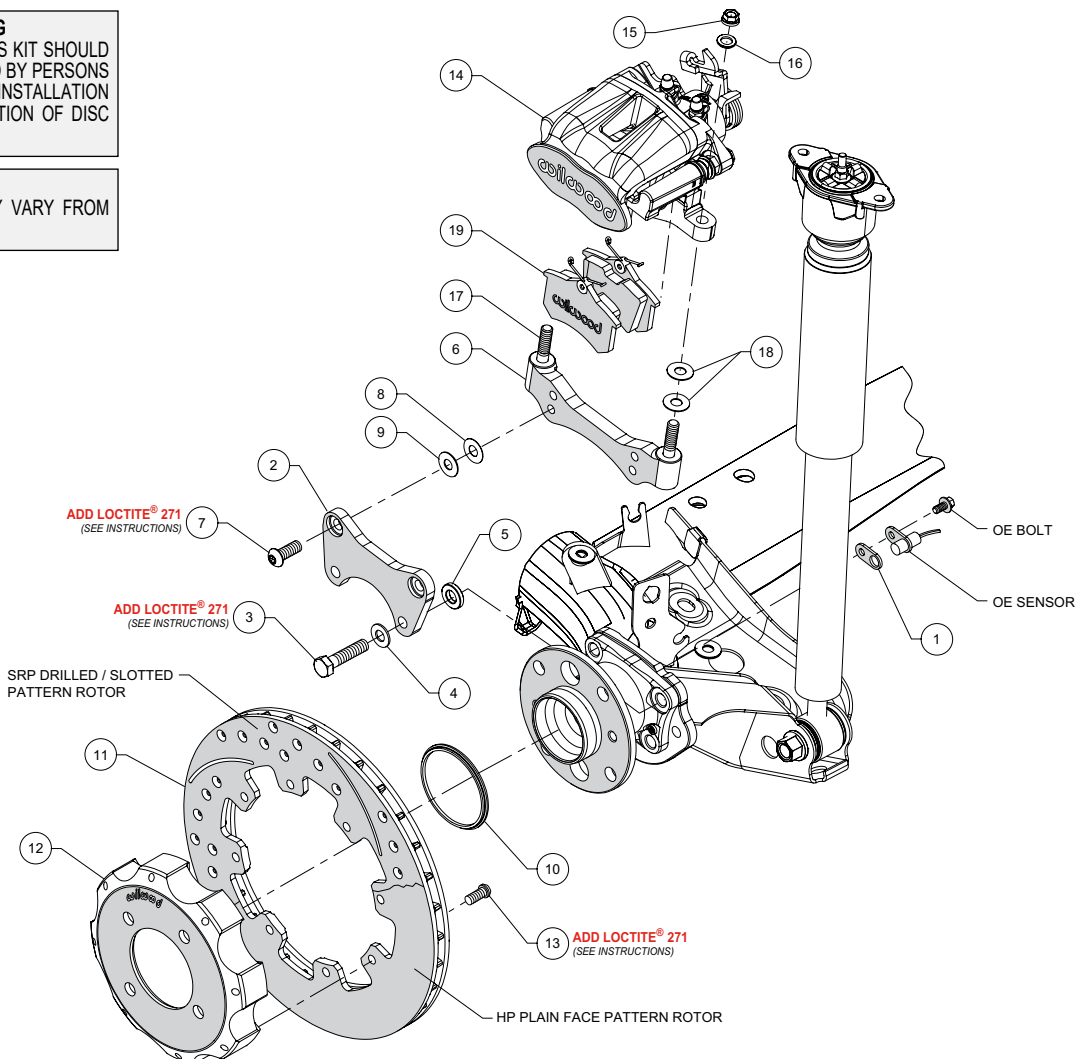

Figure 1. Typical Installation Configuration
- Remove the Original Equipment Manufacturer (OEM) bolt that secures the sensor from the backside of the upright. Place spacer (1) between sensor and upright as shown in Figure 1, and secure with OEM screw.
- The flat bracket (2) should initially be installed with clean, dry threads on the mounting bolts. Orient the bracket as shown in Figure 1 and Photo 1, and install using mounting bolt (3), washer (4), and spacer (5) placed between the bracket and upright. Temporarily tighten the mounting bolts. **NOTE:** The bracket must fit squarely against the mount bosses on the upright. Inspect for interference from casting irregularities, machining ridges, burrs, etc. After the bracket fitting has been confirmed, remove the mounting bolts one at a time and coat the threads with red *Loctite*® 271. Torque bolts to 45 ft-lbs.
- The caliper mount bracket (6) should initially be installed with clean, dry threads on the mounting bolts. Orient the bracket as shown in Figure 1 and Photo 2, and install using mounting bolt (7). Initially place one each .035" thick shim (8), and .016" thick shim (9) on each bolt between the flat bracket (2) and the caliper bracket, Figure 1. Later, after the caliper alignment has been checked, the mount bolts will be secured using red *Loctite*® 271.
- Orient the rotor (11) and the hat (12) as shown in Figure 1 and Photo 3. Attach rotor to hat using bolts (13). Using an alternating sequence, apply red *Loctite*® 271 to the threads, and torque to 25 ft-lb.
- Slide the rotor registration adapter (10) onto the axle register on the axle hub with the smaller O.D. facing outward, Photo 4. Slide the hat/rotor assembly onto the axle hub, Photo 5. **NOTE:** The hat must fit flush against the axle hub flange or excessive rotor run out may result. Install three lug nuts (finger tight) to keep the hat/rotor assembly in place while continuing with the installation.
- Slide the brake pads (19) up into the caliper (14) from the bottom with the friction material facing the rotor until the "V" spring clip snaps into place against the anvil, as shown in Figure 1 and Photo 6. They should install easily without interference.
- Initially place two .035" thick shims (18) on each stud (17) as shown in Figure 1. Mount the caliper (14) onto the caliper mounting bracket (6) using washers (16) and lock nuts (15), as shown in Figure 1 and Photo 7. Temporarily tighten the mounting nuts and view the rotor (11) from the end of the caliper. The rotor should be centered in the caliper, Photo 8. If not, adjust by adding or subtracting .016" shims (9) and/or .035" shims (8) between the caliper mounting bracket and the flat bracket (2) to center the caliper on the rotor. Always use the same amount of shims on each of the two mounting bolts. Once the caliper alignment and pad centering are correct, remove the bracket-to-bracket bolts one at a time, apply red *Loctite*® 271 to bolt threads, and torque to 45 ft-lb.